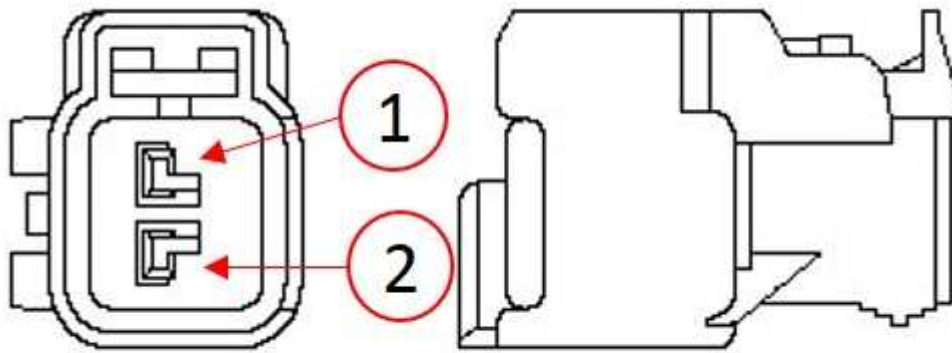

Fig. 1
3. Use connector kit #68018954AA and replace both horn electrical connectors (Fig. 1) . Insert Dark Blue wire into Cavity 1 and then splice into Black Ground vehicle harness wire. Refer to the detailed service procedures available in DealerCONNECT> TechCONNECT under: Service Info>29 - Non-DTC Diagnostics/Circuit Testing Procedures/Standard Procedure>Wire Splicing.